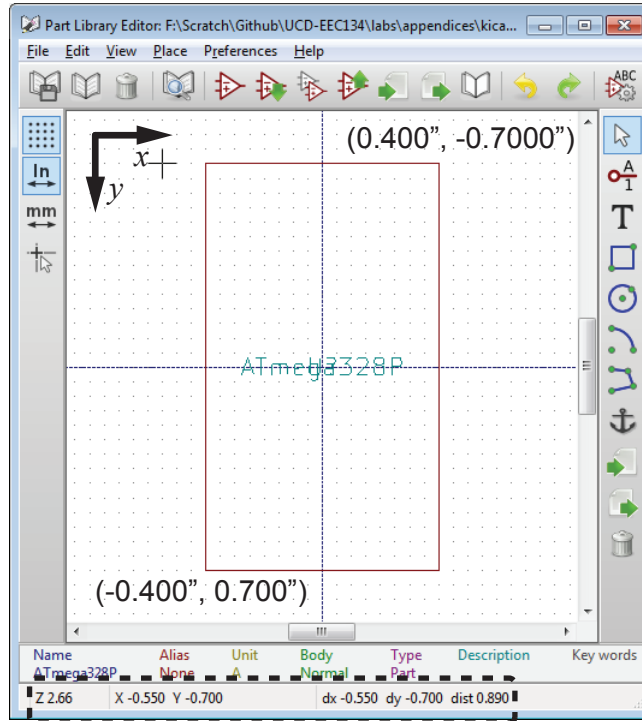

Figure 11: Drawing a rectangle in the library editor main window with the help of the built-in coordinate system.
6. Click the “Add graphic rectangle to the component body” button , and use the mouse cursor to draw a rectangle from $(x = -0.400'', y = 0.700'')$ to $(0.400'', -0.700'')$ (Fig. 11). The current position of the cursor is displayed at the bottom of the main window. Notice that the positive direction of the y -axis points downward.